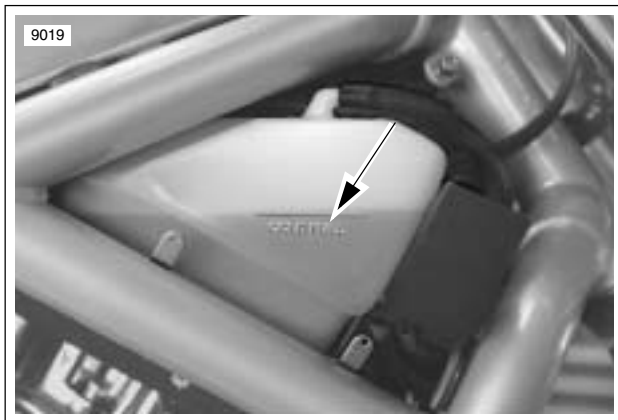

Figure 6-9. Cold Full Line On Expansion Tank
2. See Figure 6-9. Check coolant level in expansion tank with coolant cold and vehicle resting on jiffy stand. If level is below “COLD FULL” line on tank, remove cap from tank and add premixed HARLEY-DAVIDSON EXTENDED LIFE ANTIFREEZE & COOLANT (Part No. 99822-02) until fluid level reaches “COLD FULL” line.